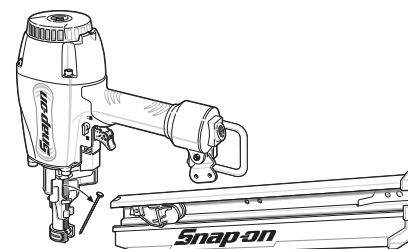

Figure 10
4. Slide magazine back in position and refasten hex screws (Figure 10).